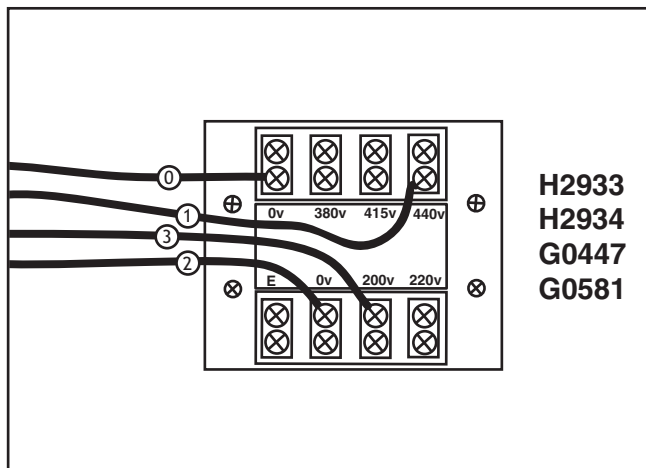

Figure 7. 440V connection.
3. On the transformer, remove the wire connected to the 220V terminal for your model of sander, and connect it to the 440V terminal as shown in **Figures 7**.